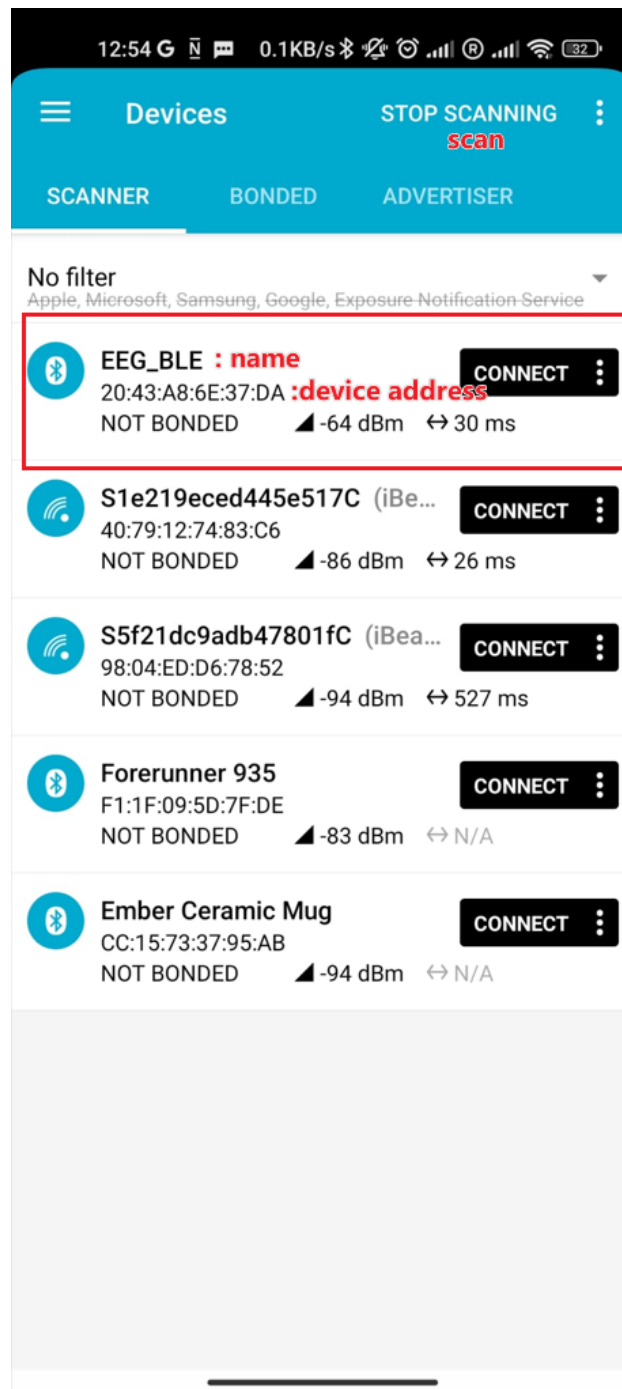

Figure 3: nRFConnector, scan the EEG_device.
6. Find and connect to "EEG_BLE" (fig 3).